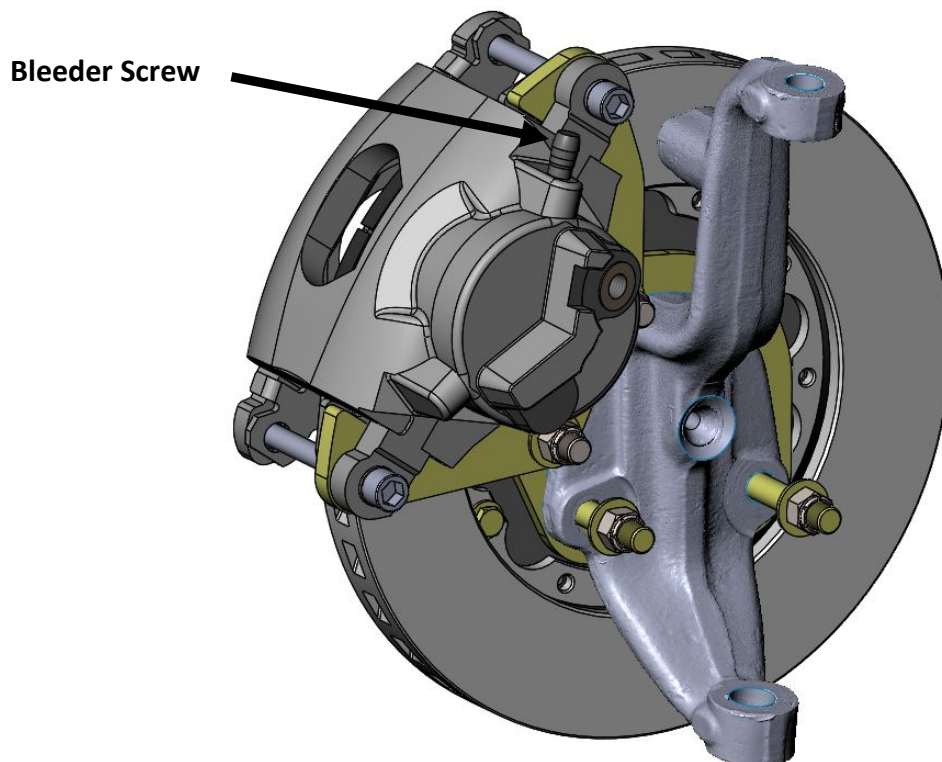

Figure 6 - Caliper Installed (Passenger Side Shown)
9. Mount the caliper to the caliper mounting bracket. With the pads installed in the caliper, slide the caliper over the rotor and line up the mounting ears of the caliper with the holes in the caliper mounting bracket. Insert the two caliper bolts through the mounting ears and tighten. Torque the bolts to 35 lbs/ft. **NOTE:** Make sure the bleeder screws are pointing up as shown in Figure 6 below.